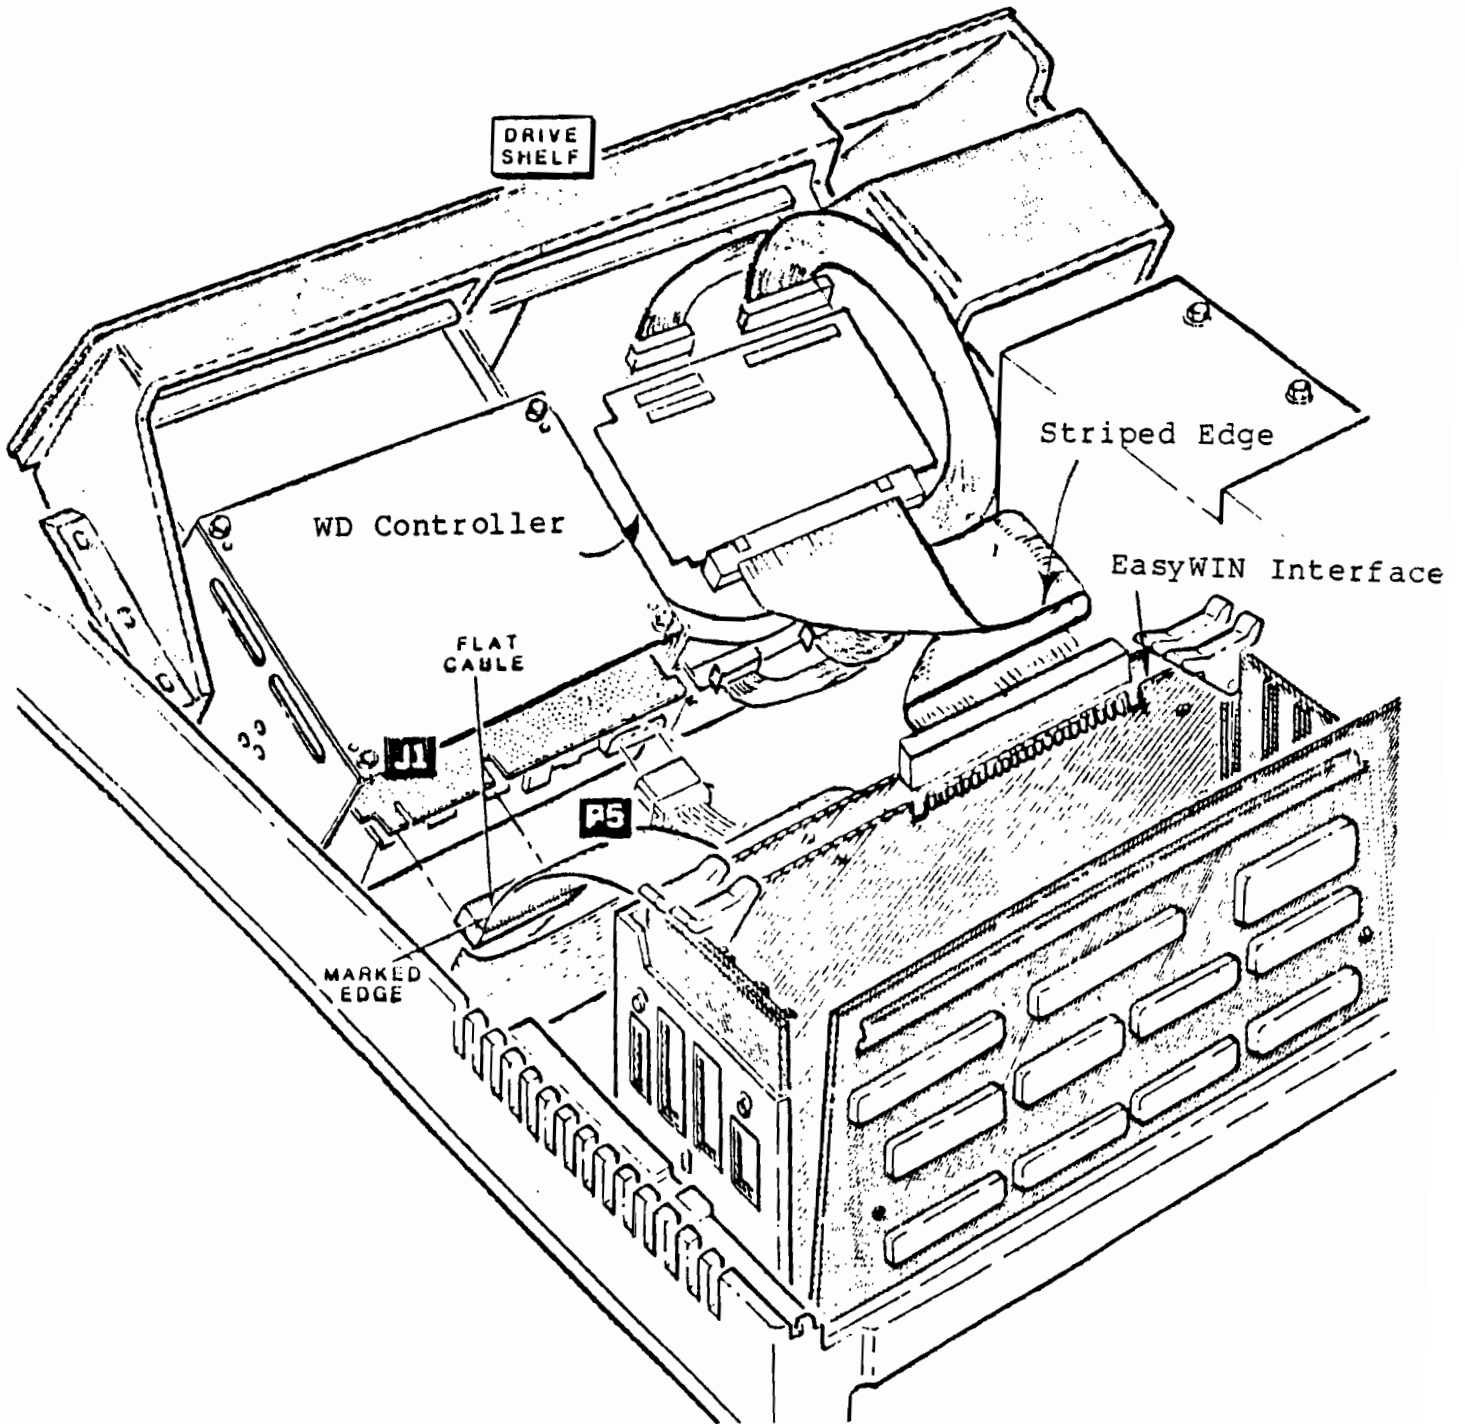

Figure 7
15. Insert the EasyWIN intelligent interface board into a free S-100 slot on the motherboard. Flip the 64 pin edge card cable attached to the WD controller's fingerboard over. Align pin 1 (striped edge) over B1 on fingerboard P2 of the interface board. Press down on the connector firmly until seated. See figure 7.